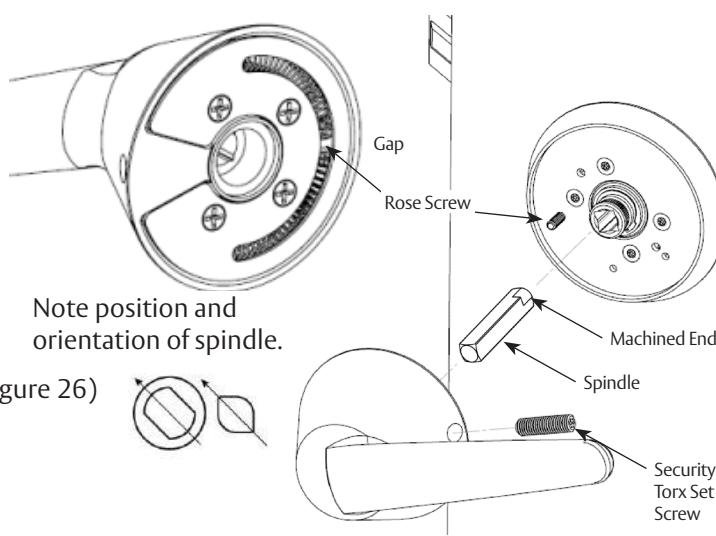

Figure 26
- Install inside spindle. (Figure 26)
- Make sure machined end of spindle seats into clutch adapter before assembling lever onto rose. (Figure 26)